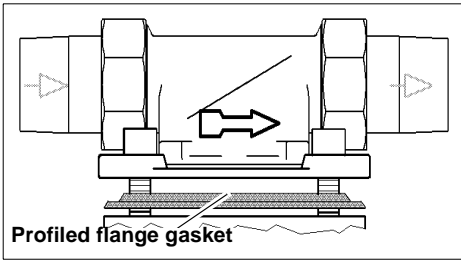

Fig. 3: Built-in rotary flange
- Insert the four flange screws in the bayonet drill holes on the built-in rotary flange (see fig. 3 II).I
- Turn the domestic water station in a clockwise direction as far as it will go (see fig. 3 II).